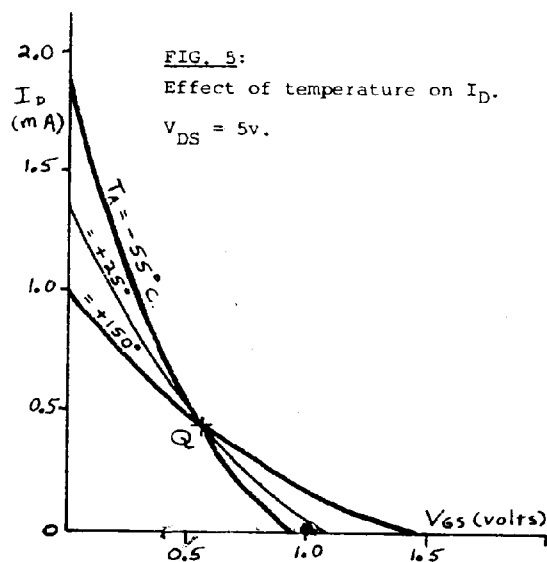

FIG. 5: Effect of temperature on I_D . $V_{DS} = 5v$.
What happens is that our transfer curve (I_D vs V_{GS}) shifts, as in fig. 5. Without getting too involved, there is a point (Q) where the temperature coefficient of drain current is zero; i.e., where temperature effect drops out. Very handy!